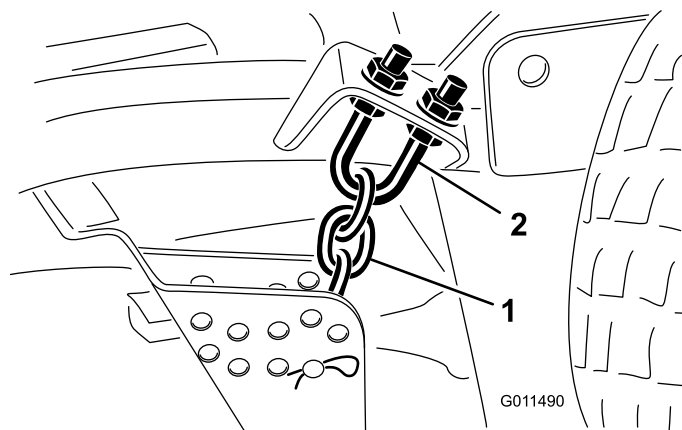

Figure 79
1. Loosen the jam nuts on the top or bottom of the height-of-cut chain U-bolt (Figure 79).